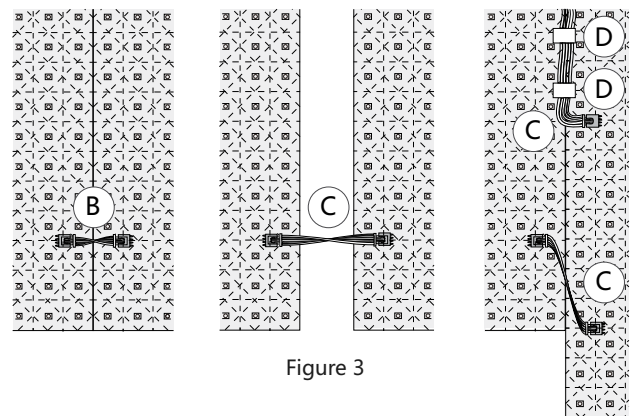

Figure 3
Long sheet-to-sheet connectors (C): Use the longer sheet-to-sheet connection wires (C) to bridge gaps and/or connect offset sheets as shown in Figure 3.
Cable management clips (D): Route the connection wires so that the light from the LEDs is not blocked, then secure the wires in this position using the cable management clips with silicone adhesive backing (D) as shown in Figure 3.